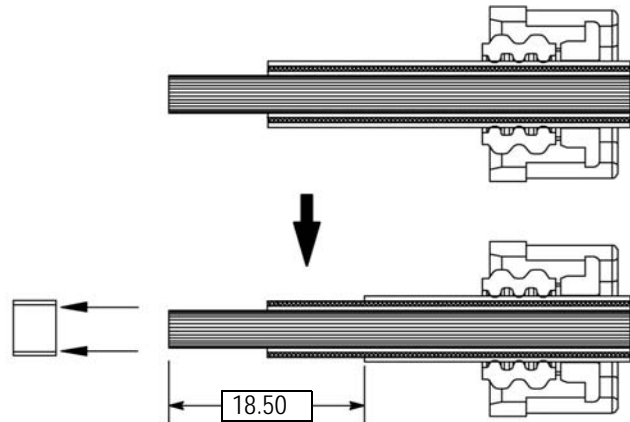

Figure 4
- Strip the outer cable jacket 18.5 mm from the end, exposing the braided cable shield as shown in Figure 4.